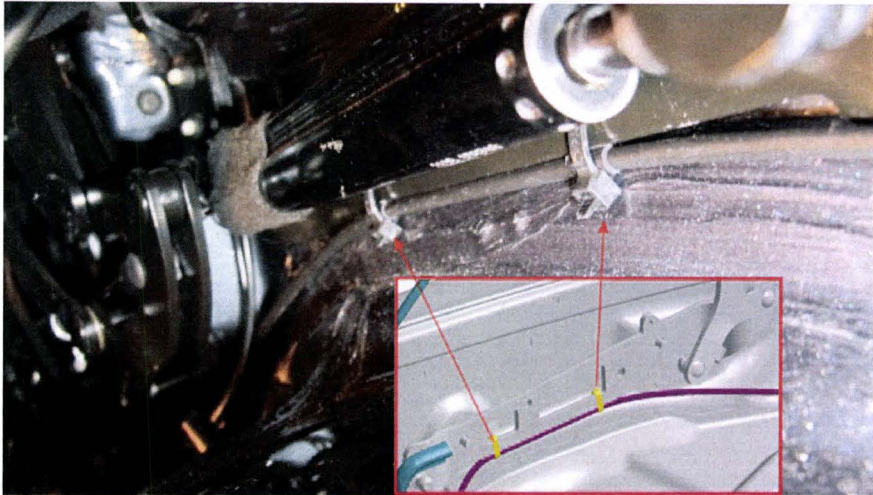

Figure 7
If the vehicle is not already listed as repaired in the "Repair history" (in Elsa pro), check for the presence of the correctly located cable tie (see Figure 7), should neither be evident carry out the required work in accordance with these instructions
8. Referencing figure 7 secure the Bowden cable to the tonneau cover drive system using two cable ties. Ensure the Bowden cable is retained underneath, along the bottom of the bracket, where it cannot come into contact with the hydraulic ram. It may be necessary to temporarily release the Bowden cable from other retaining clips to gain sufficient length to enable the two new cable ties to be attached.
The presence of cable ties conforming to the location specified in this document will serve to indicate that this campaign has been performed (see Figure 7)